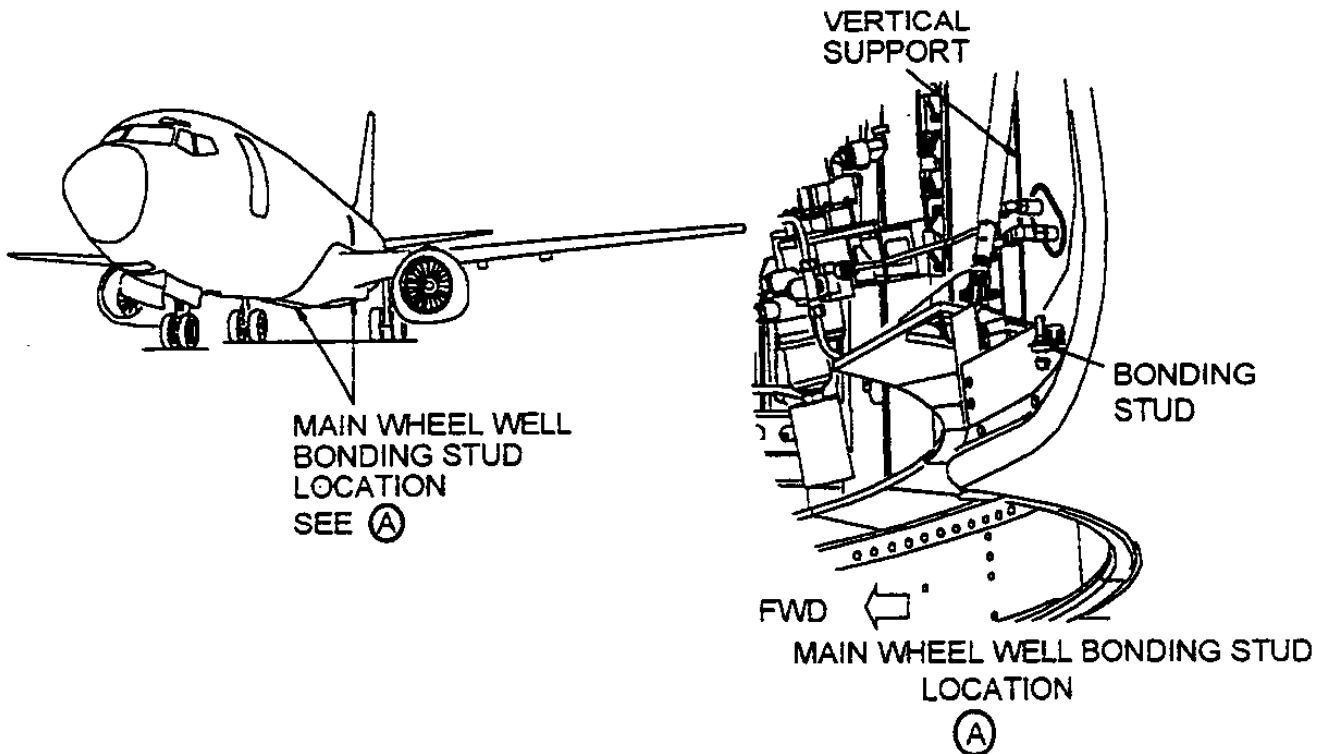

Figure 5-8: B-737 Bonding Locations
- A. Before commencing any fuel servicing on Mesa Airlines, Inc. aircraft, ensure the aircraft has been properly bonded to the fuel tender. Refer to Figure 5-8: "B-737 Bonding Locations" for reference to the following procedures.